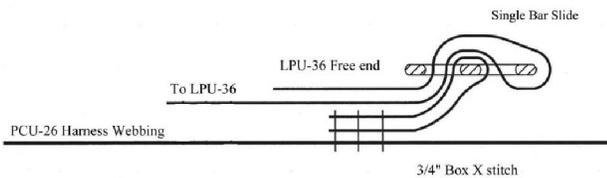

Figure 16. Single Bar Slide Routing
(3) Route through single bar slide as shown (Figure 16).
(8) Route through single bar slide as shown in (Figure 16). Leave slack in strap. This will be adjusted during fitting of the harness/LPU-36.
(9) Repeat for the right side.